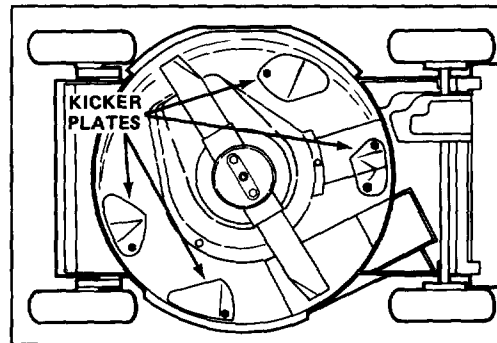

Figure 6
- B. Four special "kicker plates" positioned on the underside of the mower deck at strategic positions (Fig. 6)